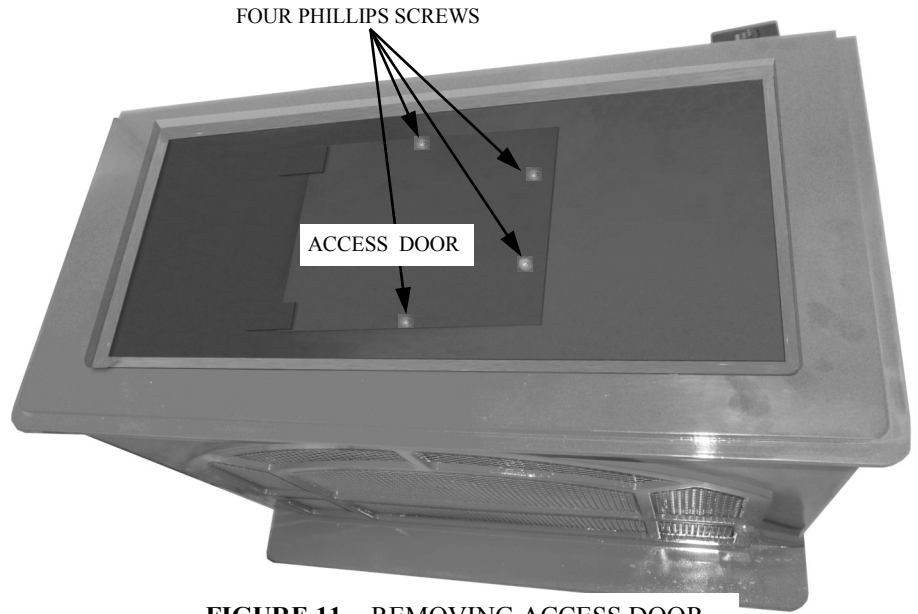

FIGURE 11 - REMOVING ACCESS DOOR
1. Remove log access door on top of unit buy removing two (4) phillips screws. Set access door and screws aside. (See Figure 11).